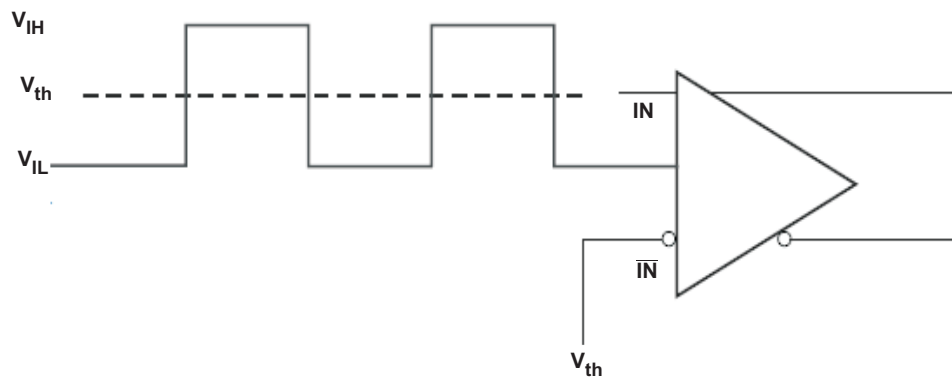

Figure 5. DC-Coupled LVCMOS Input During Device Test
2.5V LVCMOS (SEE Figure 5) INPUT CHARACTERISTICS